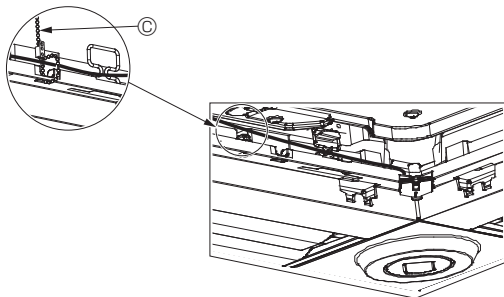

Fig. 10-12
- Secure the i-See sensor and signal receiver wires to the panel with the fastener as shown in the diagram so that there is no slack in the wires, and then cut off the excess end of the fastener. (Fig. 10-12)
- If the position of the i-See sensor was changed from the "○" position (E) to the "□" position (F), change the function settings. (Refer to page 13.)